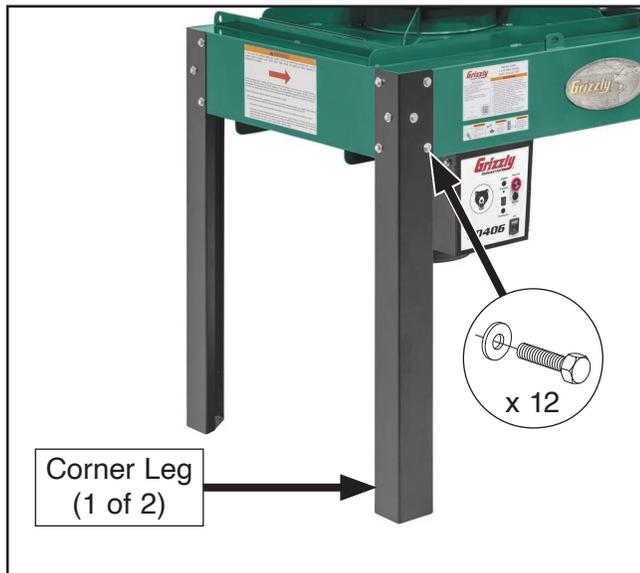

Figure 34. Corner legs installed on left side of impeller housing.
16. Install (2) corner legs to left side of impeller housing with (12) hex bolts and (12) flat washers removed in **Step 15** (see **Figure 34**). Hand-tighten fasteners for now.